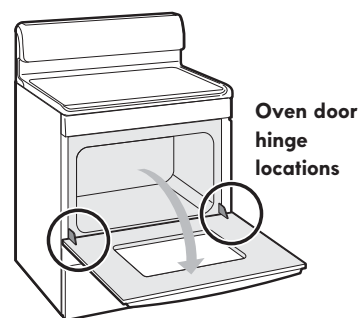

Figure 28: Oven hinge locations
1. Open oven door completely (horizontal with floor - Figure 28).
3. Fully open the oven door (horizontal with floor - Figure 28).